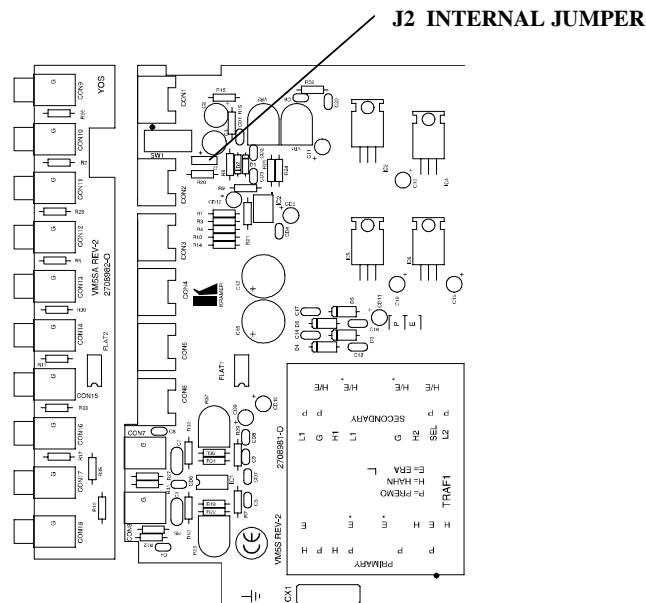

Figure 7: J2 Internal Jumper Location
- 2) Locate J2 internal jumper on the internal printed board (see Figure 7) and remove it.